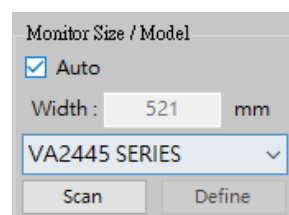

Fig 3-27-1 Select on-screen menu
(5) Multi-screen selection tool: When your computer is connected to multiple monitors, you need to select which screen the application is on to ensure the magnification ratio (MAG) value.
- Automatically read screen information selection: Normally, just select the screen. Fig 3-27-1